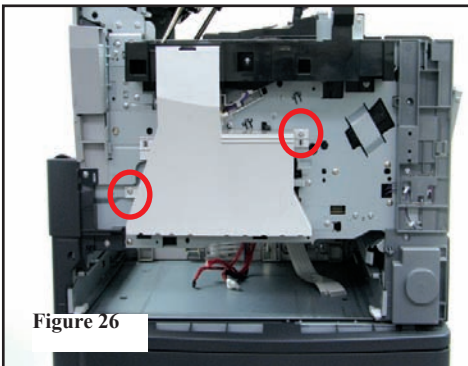

Figure 26
24. Remove white fan plenum, 2 screws. (Figure 26)